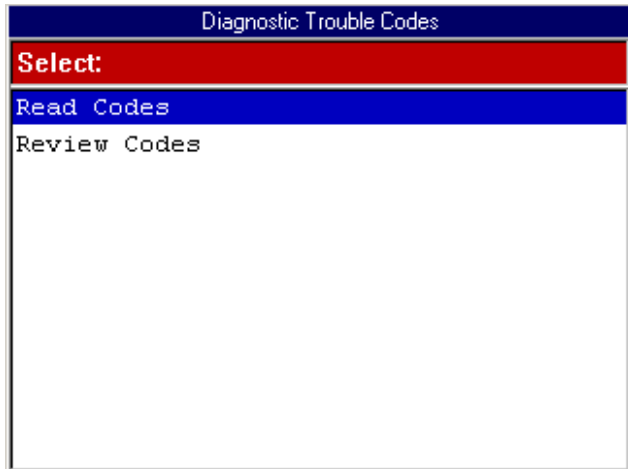

Figure 5.8: Diagnostic Trouble Codes Menu Screen
- 1 From the Diagnostic Menu screen, select **Diagnostic Codes** and press the **ENTER** key. This displays the Diagnostic Trouble Codes menu screen (see Figure 5.8 on page 36).